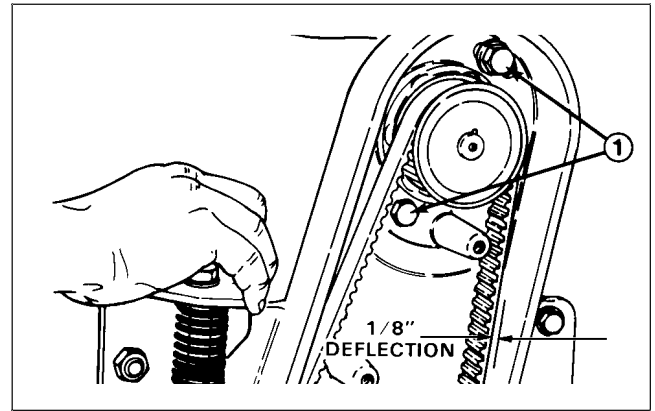

Figure 14
3. Insert the two (2) reel drive motor mounting bolts (heads on inside of the drive housing - flat washer on top bolt) through the reel motor flange holes. Thread the locknuts onto the bolts. Rotate reel motor upward in the slotted hole in the housing to tension the drive belt and tighten the fasteners (Fig. 14) to approx. 25 ft-lbs (34 Nm). NOTE: Proper belt tension is achieved when belt deflects approximately 1/8" (3 mm) at mid-point when 7 lbs. force is applied. (Fig. 14).